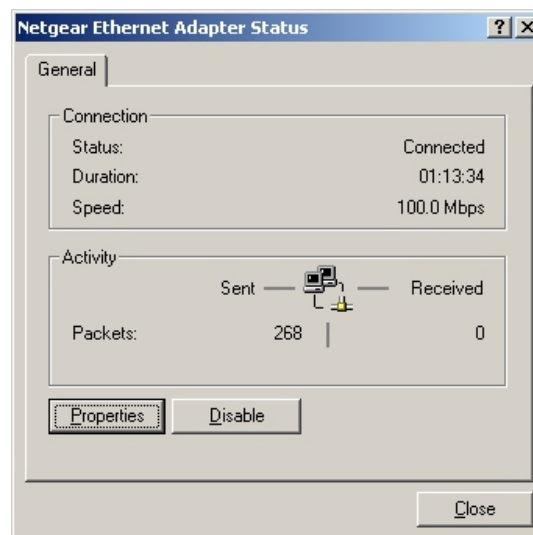

Figure A-1.3
3. Click the **Properties** button (see figure A-1.3).